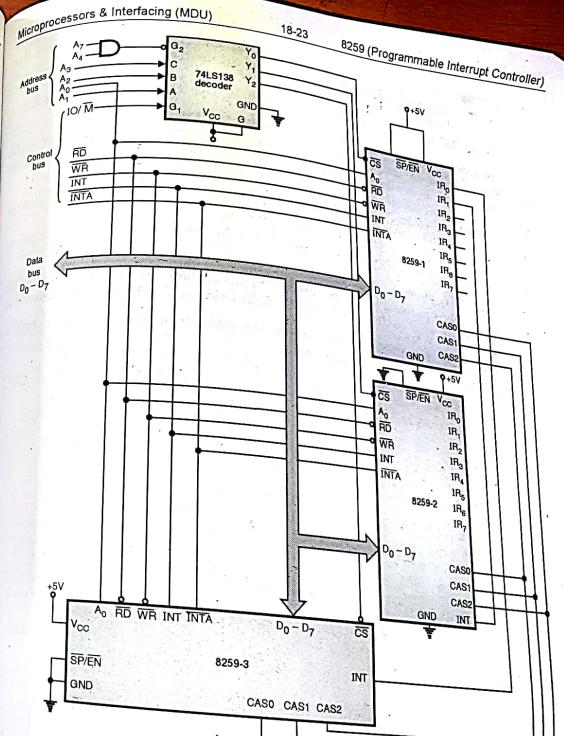

Fig. 18.9.1 : 8259A connected in cascade mode
- The 8259A can be easily interconnected to obtain multiple interrupts. Fig. 18.9.1 shows 8259A connected in cascade mode.
- In Fig. 18.9.1 8259-1 is in master mode and others are in slave mode.